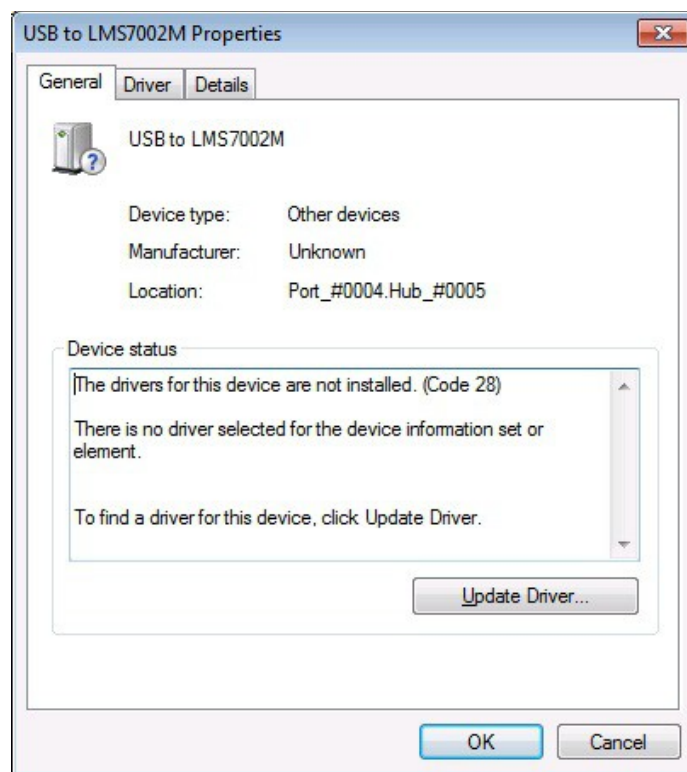

Figure 42 Device properties
4. When a new window pops-up press **Update Driver**, see Figure 42.